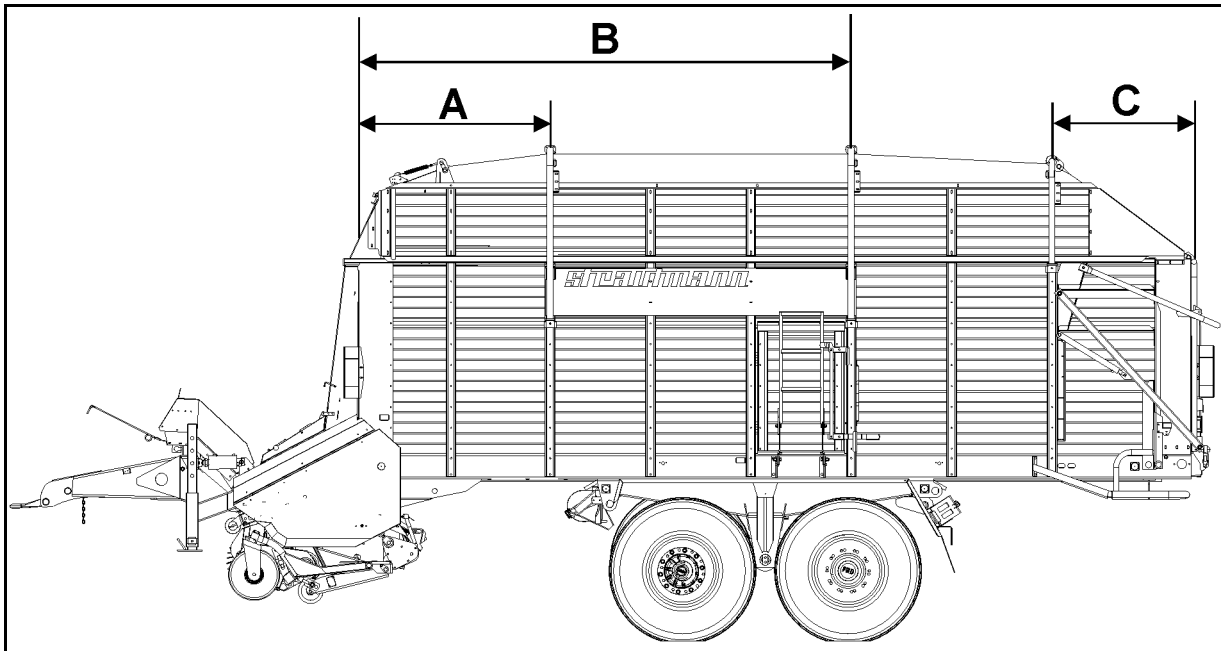

Fig. 55 Positions of tubular supports
2. Mount the tubular supports (1) loosely to the fixing supports (2); positions of tubular supports see Fig. 55, page 90.
4. Fold the side panel extensions (3) up one after the other.
5. Screw the side panel extensions (3) to the tubular supports (1).
6. Swivel the upper front grating (4) and the load-protection bars (5) up.
7. Screw the upper front grating (4) to the side panel extensions (3).
8. Swivel the load-protection bars (5) up.
9. Insert the bolts (6) into the mounts (7).
10. Secure the bolts (6) by means of the split-pins provided for that purpose.
11. Screw the tubular supports (1) to the body supports (2) such that the maximum vehicle height of 4 m is not exceeded.